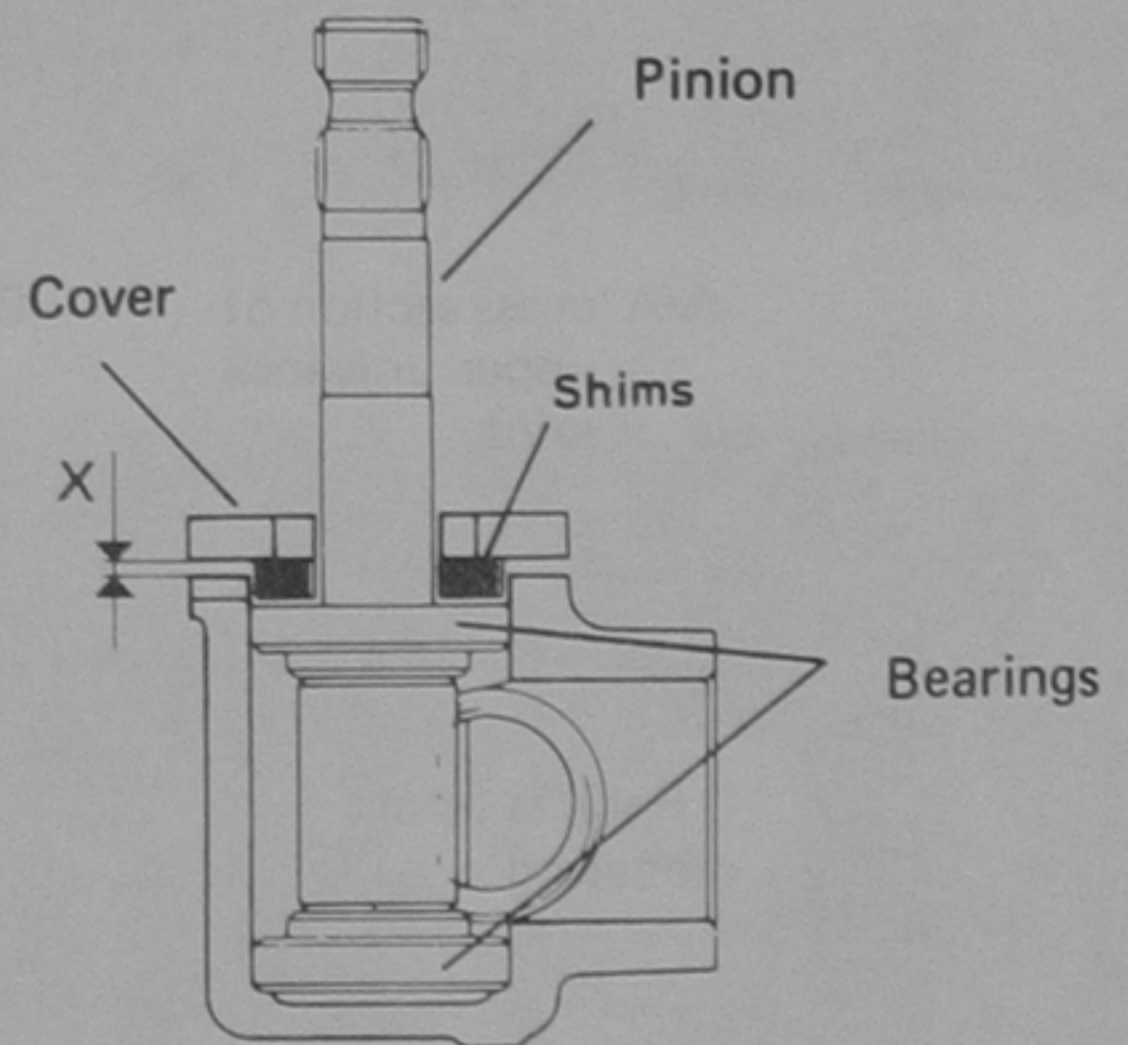

Fig. 10.7 Pinion bearing cover clearance (X) (Sec 11)
- 16 Fit the pinion bearing plate with a selected shim pack to give a dimension (X) Fig. 10.7 of between 0.025 and 0.13 mm (0.001 and 0.005 in). Shims are available in four sizes.